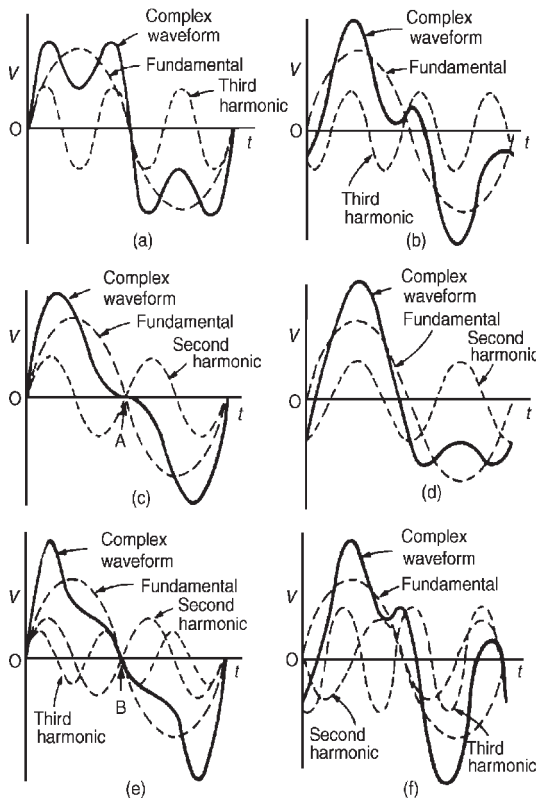

Figure 12.28
in Fig. 12.28(a), both waveforms being initially in phase with each other. If further odd harmonic waveforms of the appropriate amplitudes are added, a good approximation to a square wave results. In Fig. 12.28(b), the third harmonic is shown having an initial phase displacement from the fundamental. The positive and negative half cycles of each of the complex waveforms shown in Figs 12.28(a) and (b) are identical in shape, and this is a feature of waveforms containing the fundamental and only odd harmonics.
- (iii) A complex waveform comprising the sum of the fundamental and a second harmonic of about half the amplitude of the fundamental is shown in Fig. 12.28(c), each waveform being initially in phase with each other. If further even harmonics of appropriate amplitudes are added a good approximation to a triangular wave results. In Fig. 12.28(c), the negative cycle, if reversed, appears as a mirror image of the positive cycle about point A. In Fig. 12.28(d) the second harmonic is shown with an initial phase
- (iv) A complex waveform comprising the sum of the fundamental, a second harmonic and a third harmonic is shown in Fig. 12.28(e), each waveform being initially 'in-phase'. The negative half cycle, if reversed, appears as a mirror image of the positive cycle about point B. In Fig. 12.28(f), a complex waveform comprising the sum of the fundamental, a second harmonic and a third harmonic are shown with initial phase displacement. The positive and negative half cycles are seen to be dissimilar.
The features mentioned relative to Figs 12.28(a) to (f) make it possible to recognise the harmonics present in a complex waveform displayed on a CRO.